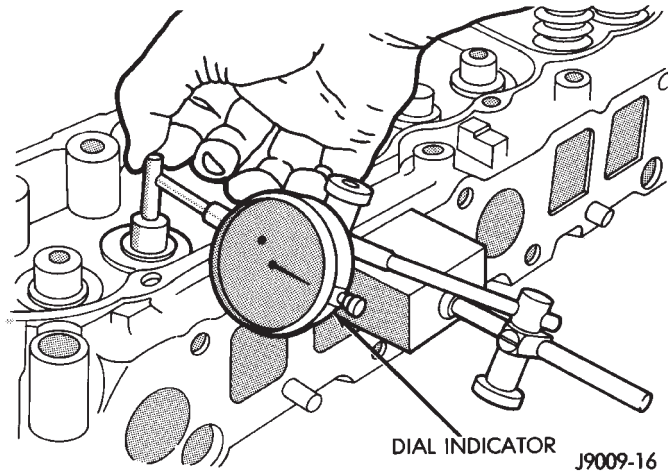

Fig. 65 Measurement of Lateral Movement of Valve Stem
- (1) Use a dial indicator to measure the lateral movement of the valve stem (stem-to-guide clearance). This must be done with the valve installed in its guide and just off the valve seat (Fig. 65).